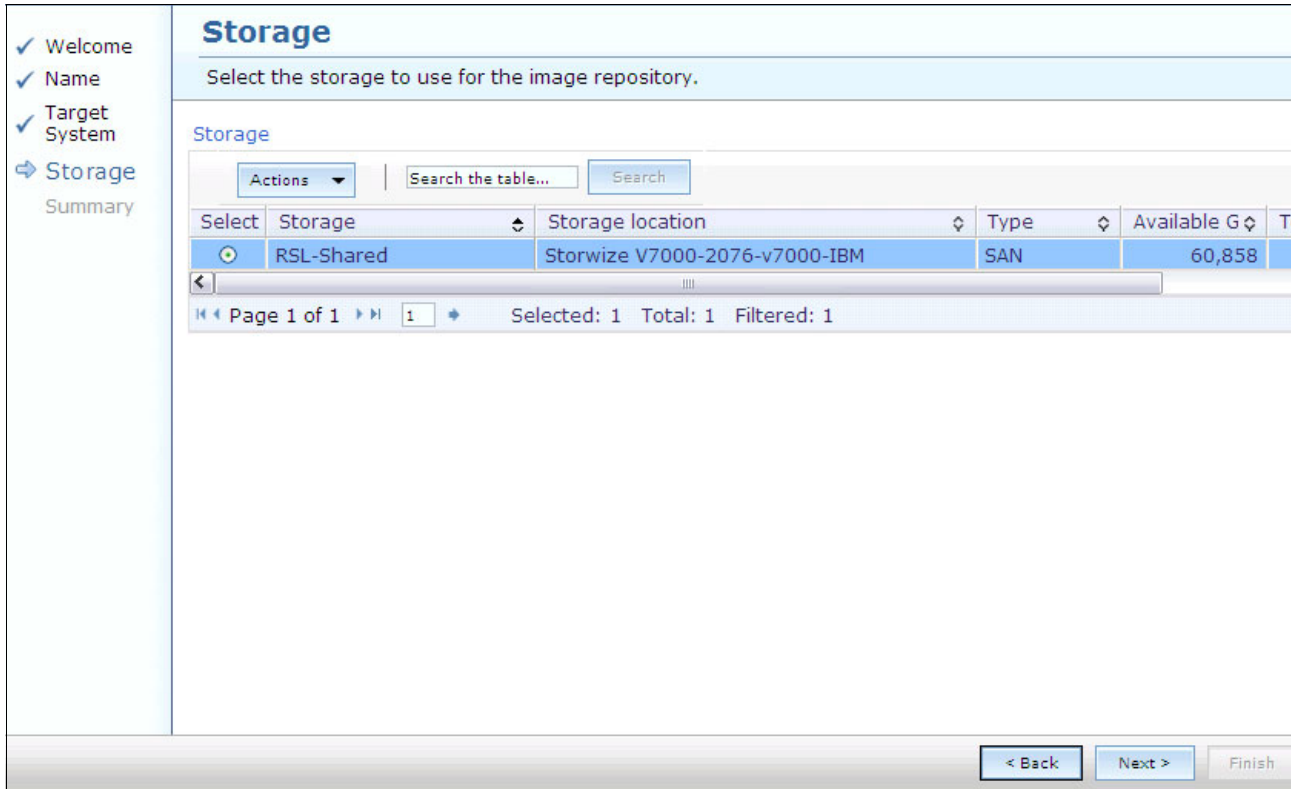

Figure 9-53 Selecting virtual appliance storage
6. Select the storage that you want to use for the image repository on which virtual appliances will be stored as shown in Figure 9-53.